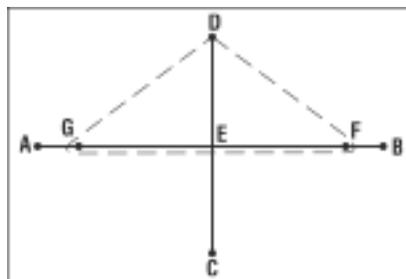

Fig. 3
3. Hold the ends of a string at G and loop the string (indicated by the dotted line) over tack F. Place a pencil against the inside of the loop, draw the string to D and hold the free ends together at G. Draw an ellipse through D, B, C and A by pressing the pencil firmly against the taut string (Fig. 3).